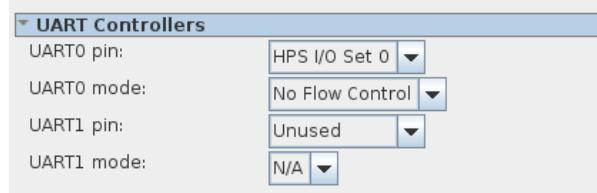

Figure 9-9. UART configuration
- Configure “UART0 pin” to “HPS I/O Set 0” and “UART0 mode” to “No Flow Control”, as shown in Figure 9-9.